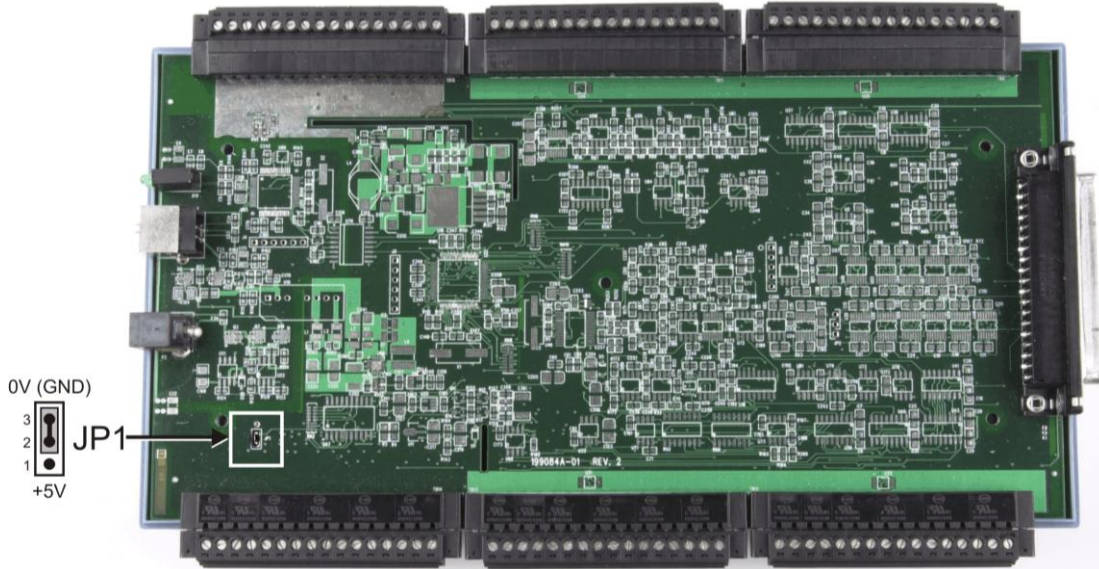

Figure 17. Location of JP1
4. To pull the digital pins down to ground, place the shorting block across pins 2 and 3 (refer to the jumper orientation shown in Figure 17).